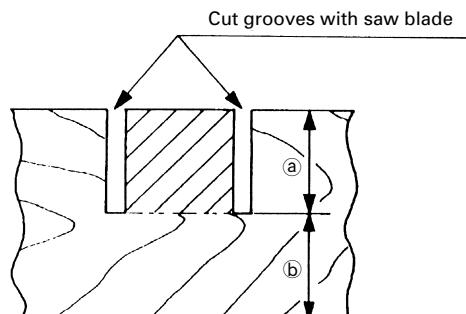

Fig. 33
Grooves in the workpiece can be cut as indicated in Fig. 33 by adjusting the 8mm depth adjustment bolt.
- (1) Loosen the 8mm wing nut and turn the 8mm depth adjustment bolt by hand.
- (2) Adjust to the desired cutting depth by setting the distance between the saw blade and the surface of the base (see ⑤ in Fig. 33).
- (3) The 8mm wing nut must be properly tightened after the adjustment has been completed.